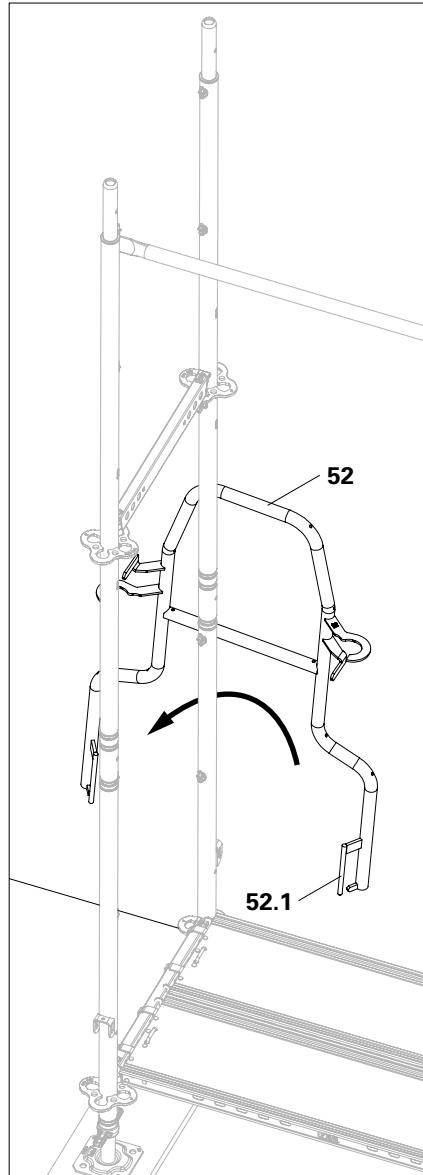

Fig. A3.12a
1. Guide the end guardrail in advance (**52**) outwards around the end frame. The pegs (**52.1**) should then be pointing towards the inner side of the scaffolding. (Fig. A3.12a)